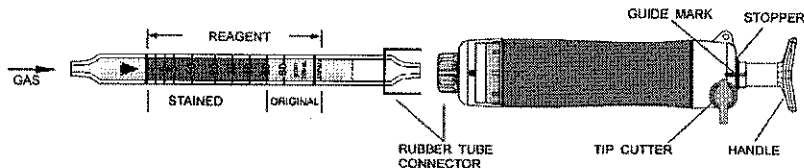

Fig.1
- ② Insert the detector tube into the aspirating pump securely as shown in Fig.1. (Arrow mark shall point to the pump.)
- ③ Align the guide marks on the shaft and stopper of the aspirating pump.
- ④ Pull the pump handle at a full stroke until it locks and wait for 1.5 minutes or until the completion of sampling is confirmed with the flow indicator of the pump. (See descriptions about the flow indicator in the instruction manual of the pump.)
- ⑤ Push back the handle without removing the detector tube from the rubber tube connector so that air in the pump will be discharged perfectly. Then repeat the step ③~④ twice more.
- ⑥ On completion of sampling, read the scale at the maximum point of the stained layer.